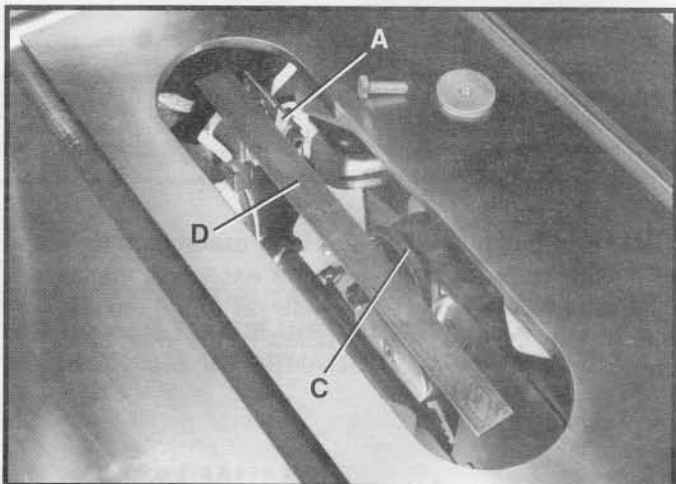

Fig. 18
4. Using a straight edge (D) Fig. 18, check to see if the splitter bracket (A) is aligned with the inside blade flange (C). Check both the top and bottom of bracket (A) with top and bottom of flange (C).